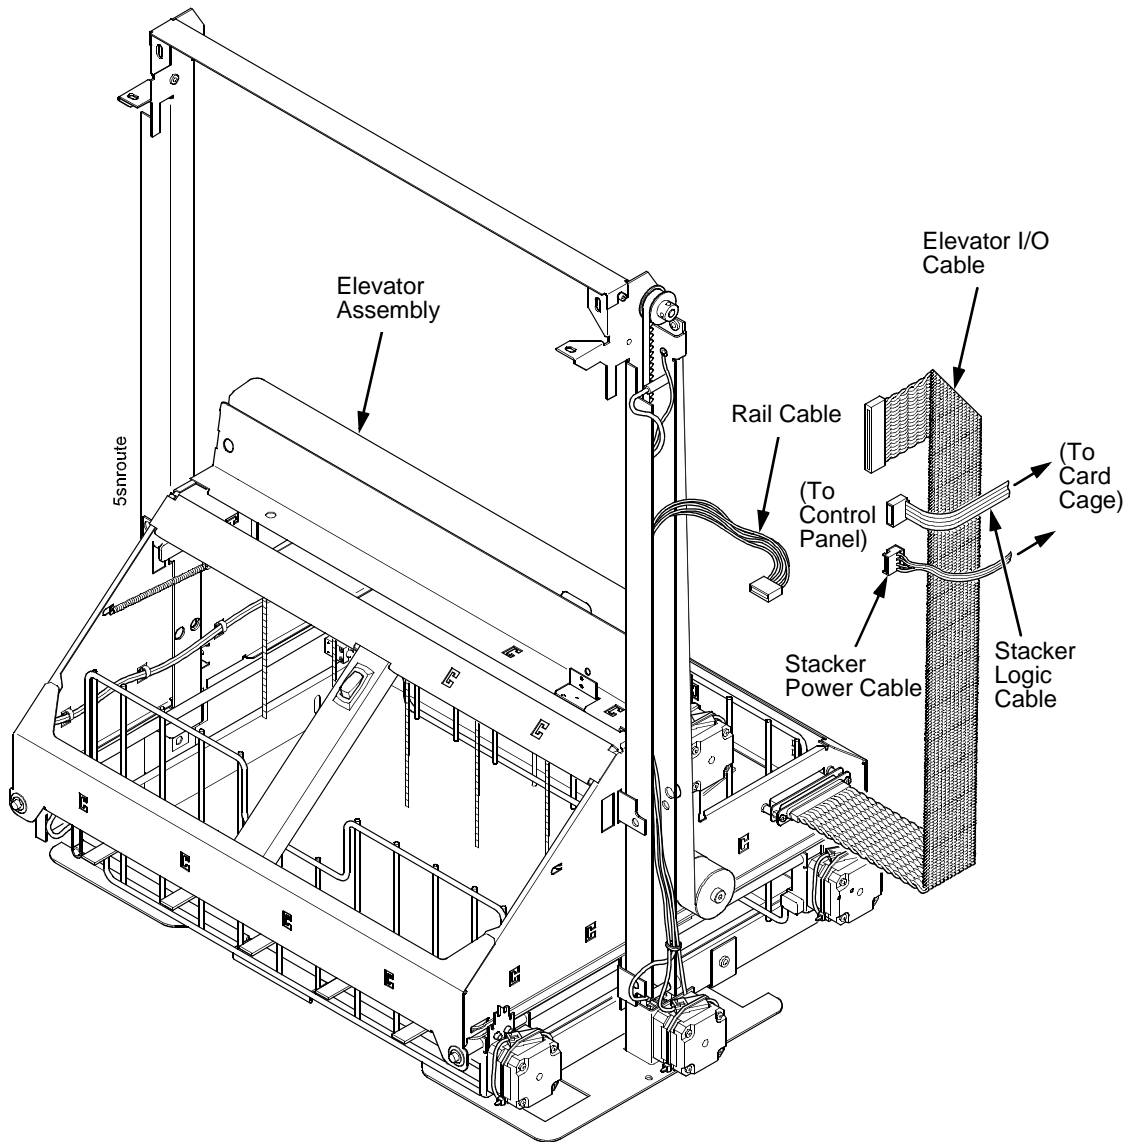

Figure 80. Stacker Cable Routing
25. Gather the stacker rail cable, elevator I/O cable, logic cable, and power cable. Route the cables outboard of the elevator assembly. (Figure 80.)